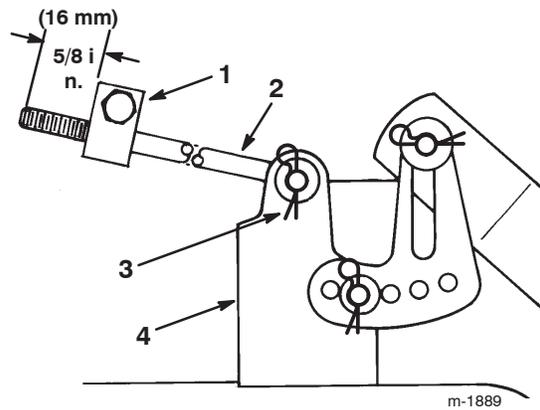

Figure 50
6. Measure the length of the rod extending out of the front of the adjusting block on the sides of the chassis (Fig. 50). If the rod length is not 5/8 in. (16 mm), remove the hairpin cotter and washer from the end of the rod (Fig. 50) and turn the rod until it extends out 5/8 in. (16 mm).